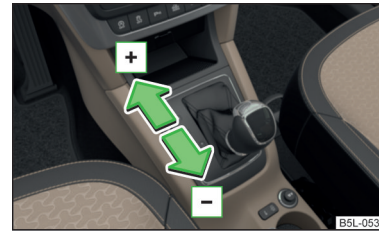

Fig. 138
▶ Push the selector lever forwards  » Fig. 138.
▶ Push the selector lever backwards  » Fig. 138.